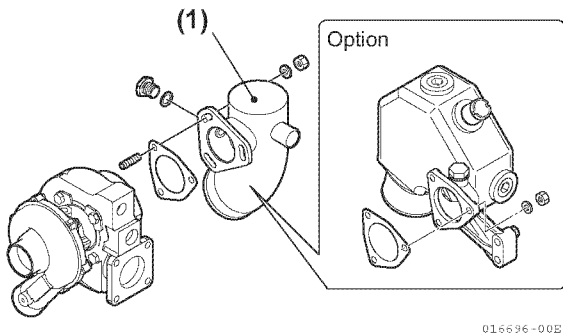
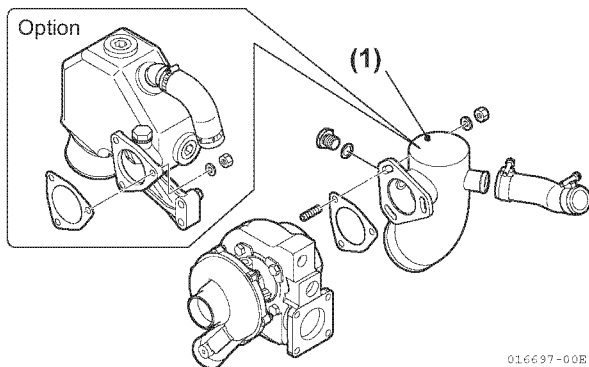

Figure 9-5
Figure 9-6
- Remove mixing elbow for 4JH4-TE (Figure 9-5, (1)) and 4JH4-HTE (Figure 9-6, (1)). See *Remove cooling system components from engine. on page 5-34.*